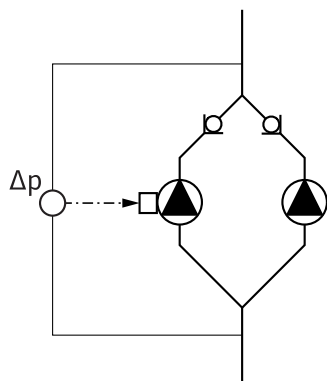

Fig. 18: Example, differential pressure sensor connection
- In the example in Fig. 18, the master pump is the left-hand pump in the direction of flow. Connect the differential pressure sensor to this pump.
- The measuring points of the master pump differential pressure sensor must be on the suction and pressure side of the double-pump system in the corresponding collector pipe (Fig. 18).